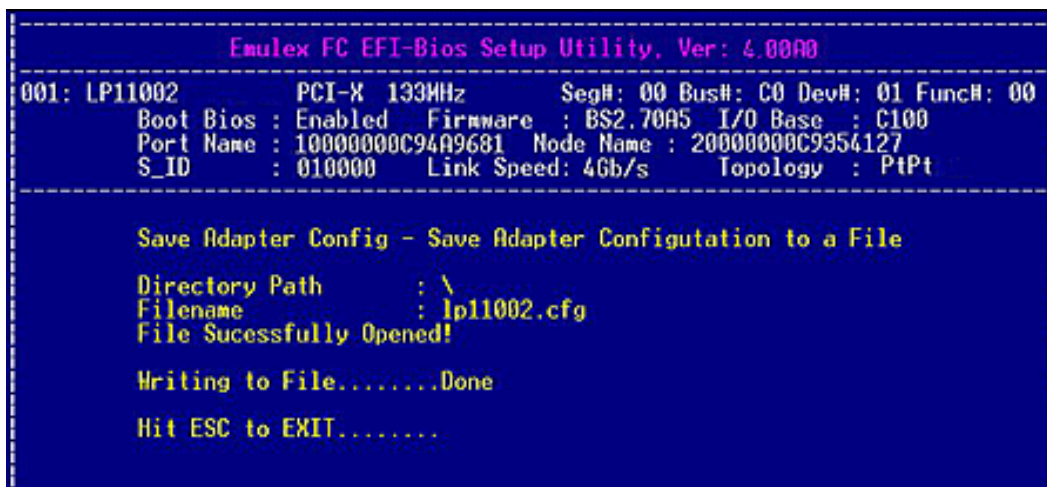

Figure 6-32 Completed Save Configuration to a File Screen
2. After you enter the directory path, you are prompted to enter the file name. Do so, and then press <Enter>. The screen shown in Figure 6-32 displays the status of the save.